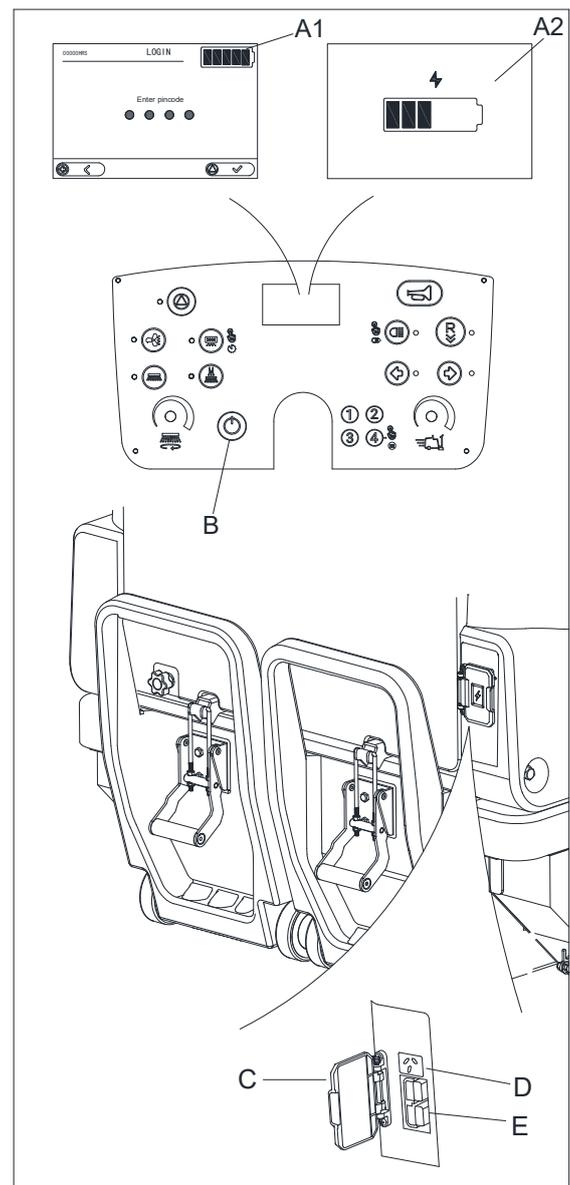

Figure 16
2. Press the power button to turn off the machine (B, Figure 16).
4. Open the charging port protective cover (C, Figure 16). Connect the external charger's connector to the DC charging port on the machine (E, Figure 16). When the external charger is connected to the machine, all functions on the machine will automatically shut down.
8. Press the power button to turn on the machine (B, Figure 16) and check the battery status on the panel display (A1, Figure 16).
9. Open the charging port protective cover (C, Figure 16). Connect the power cable to the on-board charging port on the machine (D, Figure 16), then plug the other end of the power cable into the socket.
10. The battery charging status can be viewed on the LCD display (A2, Figure 16).
13. Press the power button to turn on the machine (B, Figure 16) and check the battery status on the panel display (A1, Figure 16).
2. Press the power button (B, Figure 16) to turn off the power.